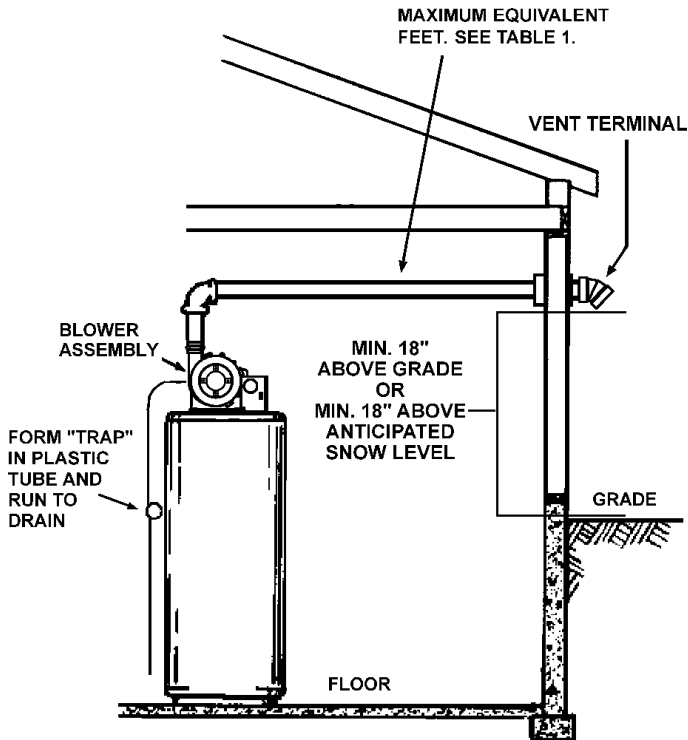

FIGURE 20
The first step is to determine where the vent pipe will terminate. See Figures 15, 20 and 21. The vent may terminate through a sidewall as shown in Figure 20 or through the roof as shown in Figure 21.
1. Vent Termination must extend a minimum of 18 inches (46 cm) above roof or 18 inches (46 cm) above the anticipated snow level to prevent blockage of the vent termination, as shown in Figures 20 and 21.